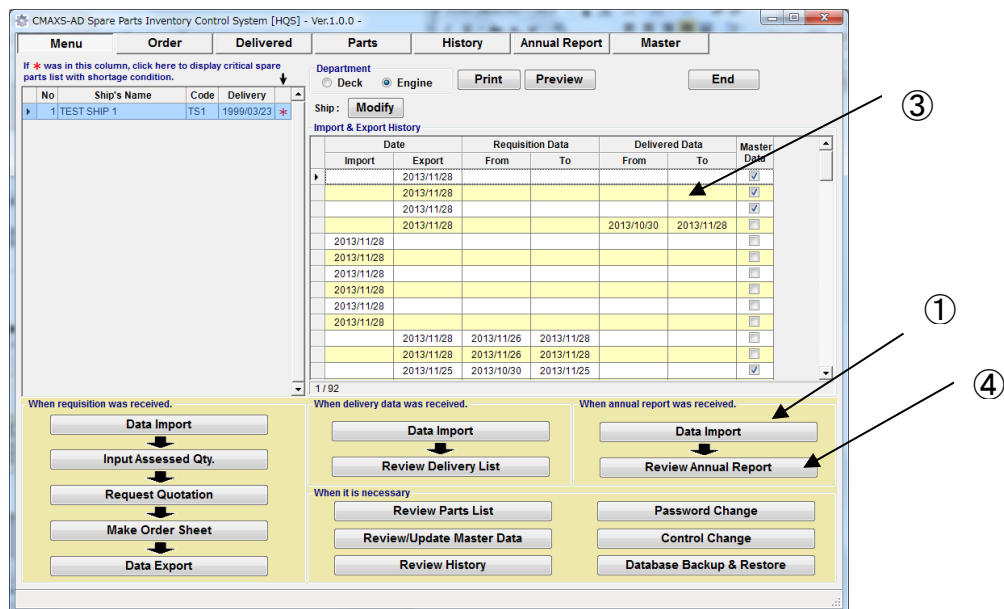

Fig.11-1 Menu Screen
(1) On the "Menu Screen"(Fig.11-1), select [Data import].
(2) Select [OK] at completion message dialog.
(3) Import history is recorded on "Import & Export History".
(4) On the "Menu Screen" (Fig.11-1), select [Review Annual Report].